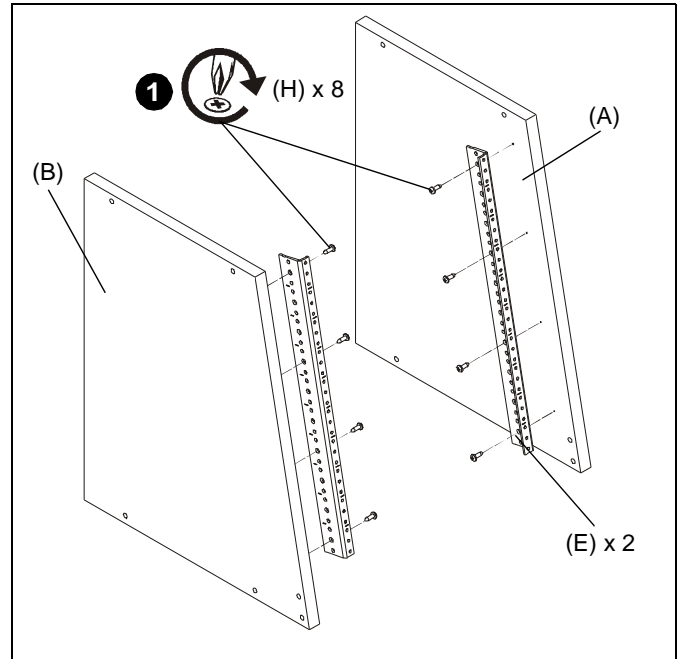

Figure 1
1. Use eight #10 x 5/8" wood screws (H) to secure two 10-space rack rails (E) to two side panels (A and B). (See Figure 1)